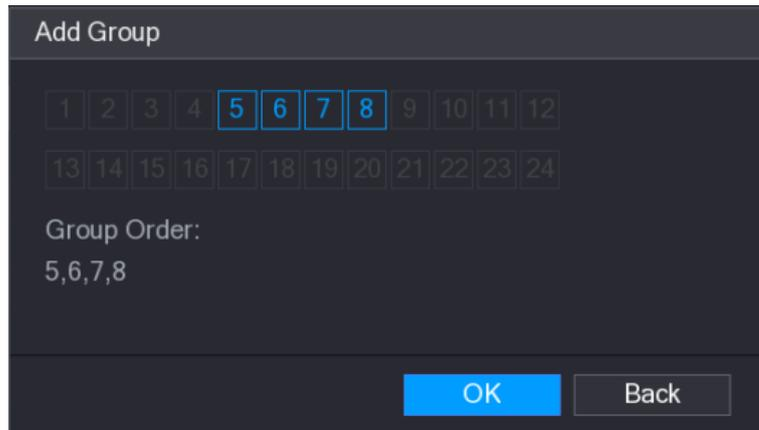

Figure 5-45
**Step 2** Select the channels that you want to group for tour. See Figure 5-45.